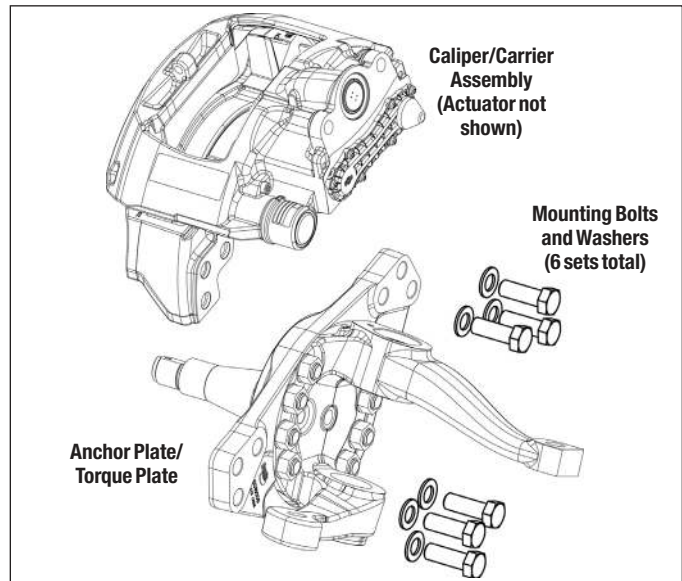

Figure 42 – Axial Mount Caliper/Carrier
5.3.6 Disconnect the air hose(s) to the brake chamber. (See Figure 42). Supporting the air disc brake by necessary means, remove the six bolts attaching the brake to the anchor plate and remove the caliper/carrier assembly from the vehicle.